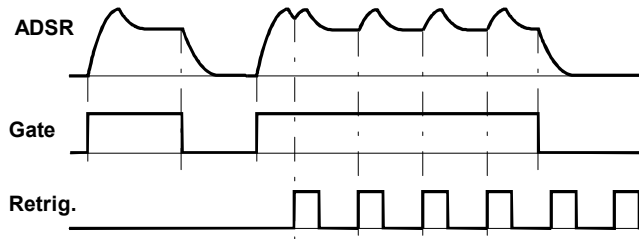

Fig. 2: Envelope re-trigger system
The envelope can also be **re-triggered**, ie. start from scratch again, each time a trigger signal is sensed at the Retrigger input socket, when the gate is still open (see Fig. 2 on page 5).
② Retrig.
Socket ② is the ADSR's **retrigger input**, which can be connected, for instance, to the output from an LFO. That means that *while the gate is open*, the envelope re-triggers every time it senses a pulse from the LFO (see Fig. 2).